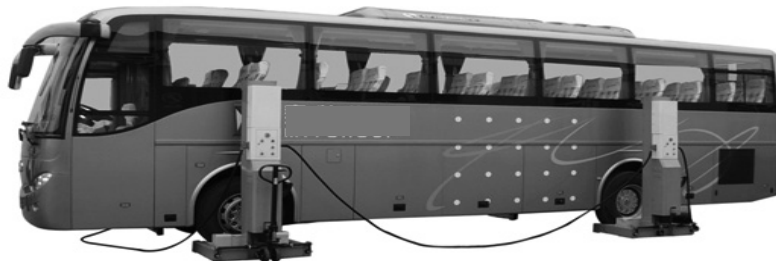

Fig.13
2. After connecting the cables well (Fig.13), Turn the select knob to “Pair”& “FOUR” option, and then turn the power switch to “ON”.